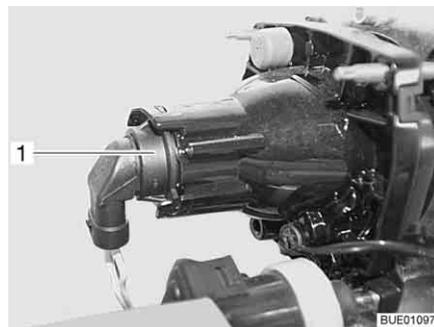

Fig. 256 Low beam/main beam/parking light
- Put your hand behind the lamp holder (Fig. 256,1).